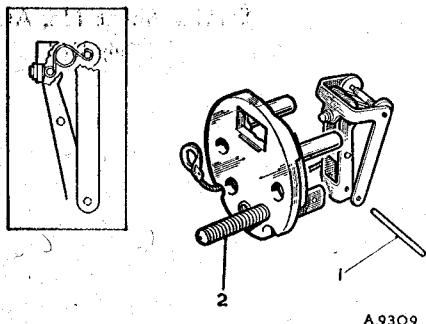

Fig. 3. Fitting the rocker assembly to the pedestal. (Inset) the correct position of the centre toggle spring
1. Invert the pedestal and fit the rocker assembly to it by pushing the steel pin (1) (Fig. 3) through the small holes in the rockers and pedestal struts. Then position the centre toggle so that, with the inner rocker spindle in tension against the rear of the contact points, the centre toggle spring is above the spindle on which the white rollers run. This positioning is important to obtain